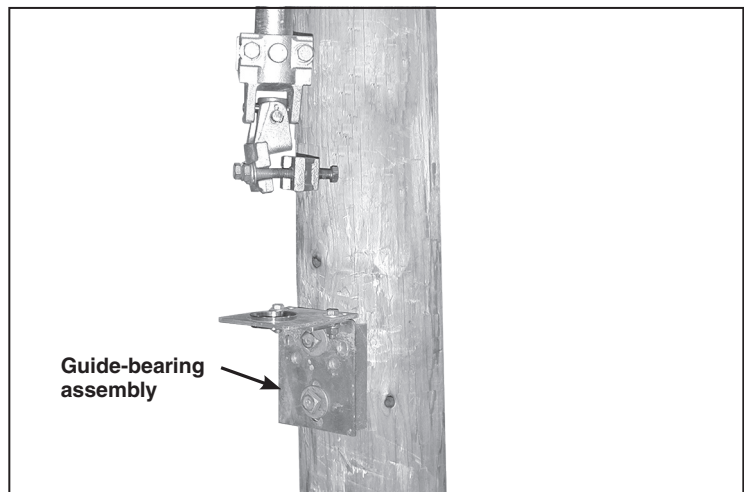

Figure 17. Install the guide-bearing assembly.
STEP 15. Position and install the guide-bearing assembly on the pole in accordance with the dimension shown on the erection drawing. See Figure 17.